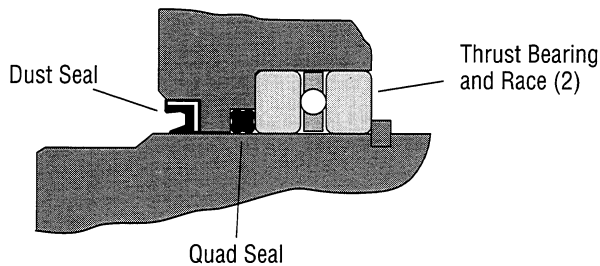

Figure 4
- 11 Lubricate and install the dust seal, see figure 4 for correct seal orientation.